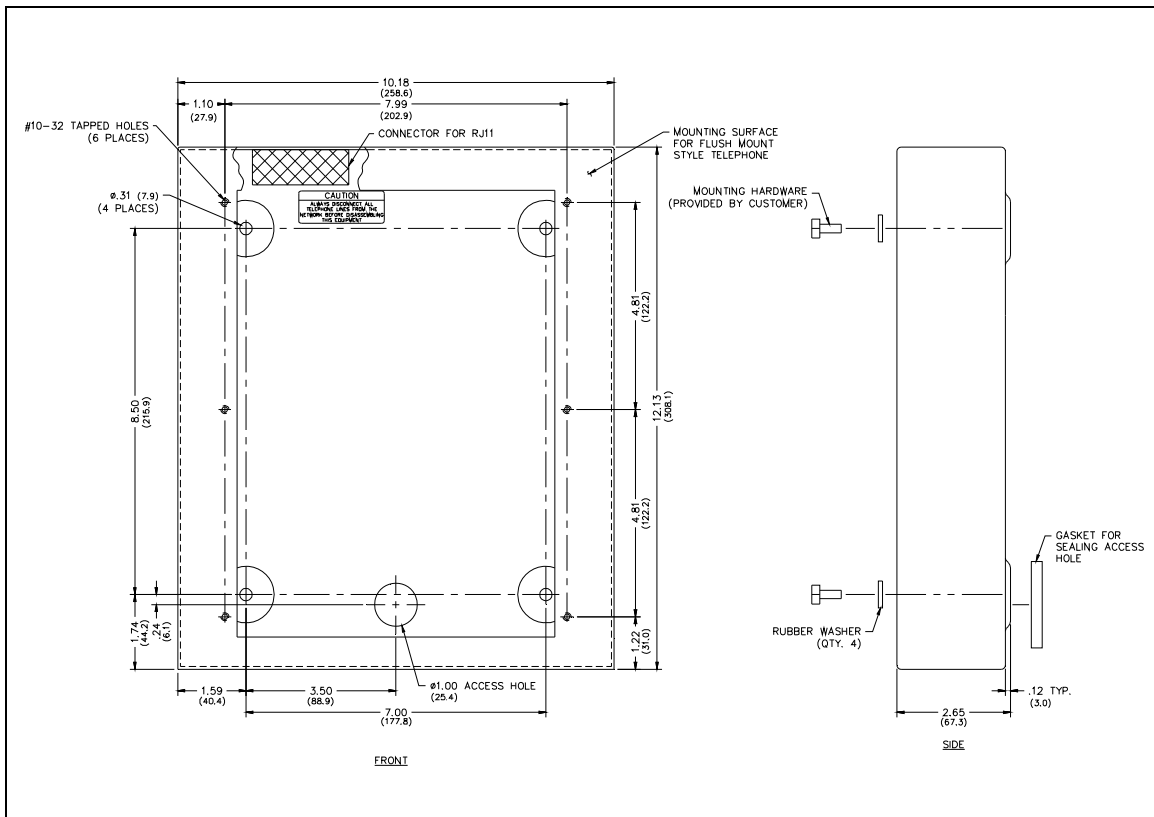

Figure 1. Model 238-001 Surface-Mount Enclosure Outline
2. Mount the enclosure on a flat wall surface using the four 5/16-inch (0.312 in) diameter mounting holes (see Figure 1). Four rubber washers are provided to ensure sealing. Mounting hardware is not provided.
3. Secure the CAUTION label to the rear surface of the enclosure, in proximity of the telephone jack (see Figure 1 for the recommended location).